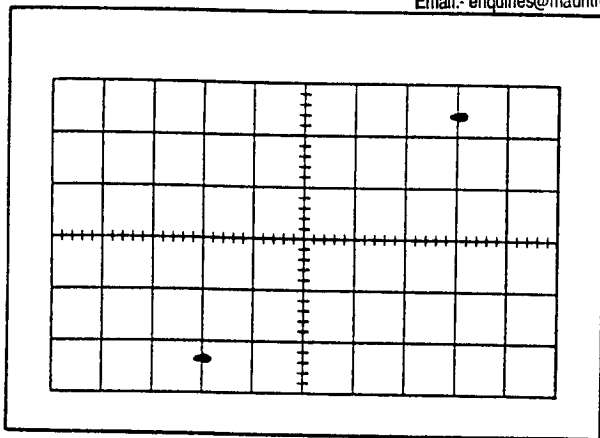

Fig. 5-5. Typical crt display showing correct external horizontal gain.
- e. Check—Crt display 5 divisions horizontally (see Fig. 5-5),  $\pm 0.25$  divisions ( $\pm 5\%$ ).